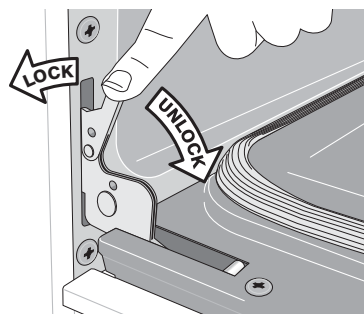

Figure 21: Hinge lock/unlock positions
2. Pull the door hinge locks on both left and right door hinges down from the oven frame completely towards the oven door (See Figure 21). A tool such as a small flat-blade screwdriver may be required.
4. Push the door hinge locks up towards and into the oven frame on both left and right oven door hinges to the locked position; then, close the oven door (See Figure 21).